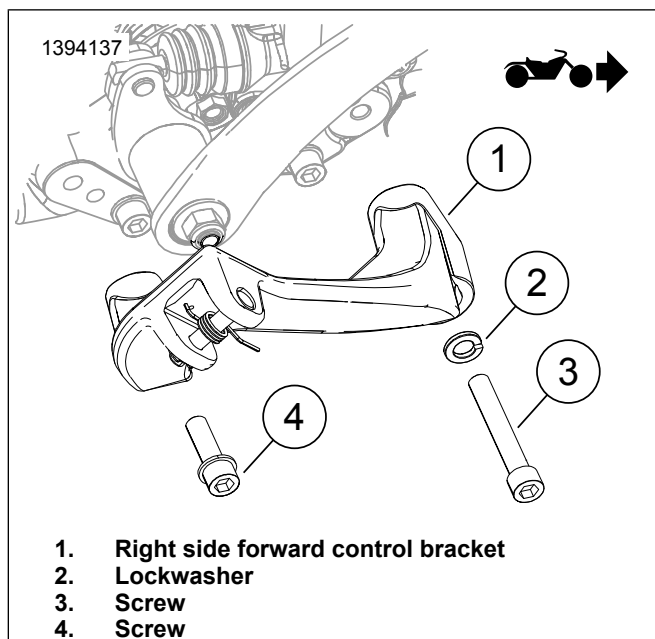

Figure 2. Right Side Forward Control
1. See Figure 2. Position right side forward control bracket (1).
2. Install front screw (3) and lockwasher (2). Tighten.